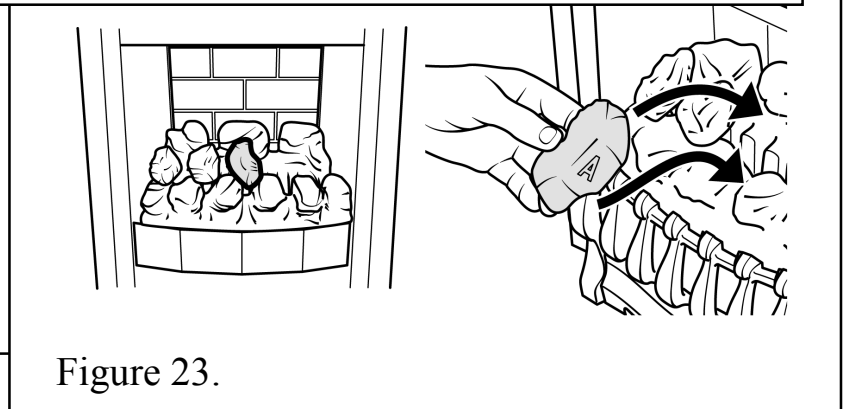

Figure 23.
6. Place a type “A” coal between the front and rear base coals with the letter “A” upright. The top of the coal should rest against the centre coal of the rear base coal as shown in figure 23.